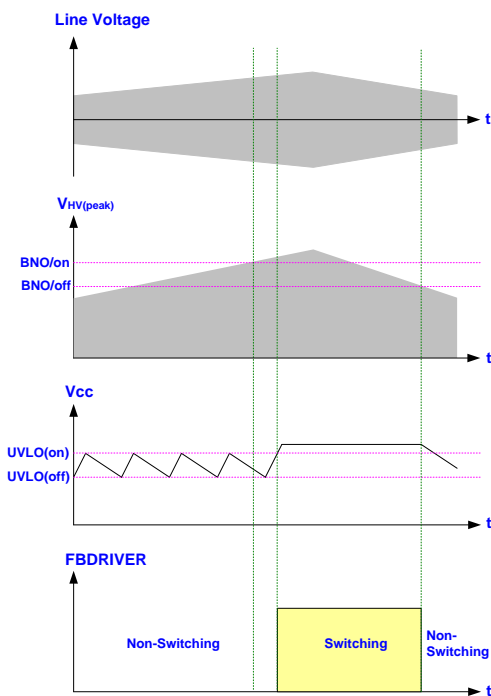

Fig 17.
The LD7791 features brown-in / brown-out protection on HV pin. As the built-in comparator detects line voltage, it will turn off the controller to prevent any damages. In case of  $V_{HV} < \text{Brown-out Level}$ , the output driver will be disabled even when VCC already reaches UVLO (ON). It therefore forces VCC hiccup between ULVO (on) and UVLO (OFF). Unless the line voltage is large enough and over Brown-in Level, the output driver will not start switching even if the next ULVO (on) is tripped. A hysteresis is designed to prevent false-triggering and damage to the external components during turn-on and turn-off phase. See Fig 17 for the operation.